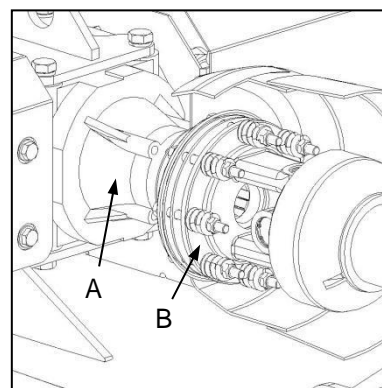

Fig. 5
- ✔ Discoloration or blistering of painted surfaces of the friction clutch housing (Fig. 5-B).
- ✔ The friction clutch housing feels significantly hotter than the surface of the gearbox casing (Fig. 5-A).
- ✔ Verkleuring of blaasvorming van geverfde oppervlakte van die wrywingkoppelaarmhulsel (Fig. 5-B).
- ✔ Die wrywingkoppelaarmhulsel voel beduidend warmer as die ratkasomhulsel (Fig. 5-A).